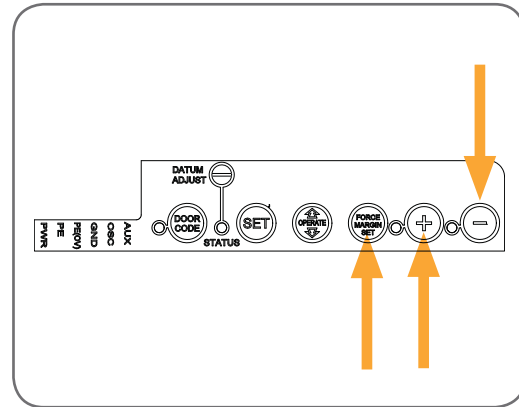

fig 35
- Hold down FORCE MARGIN SET button (**Fig. 35**)
- While holding the FORCE MARGIN SET button, press the PLUS (+) button. Each press increases the force margin (**Fig. 35**).
- While holding the FORCE MARGIN SET button, press the MINUS (-) button. Each press decreases the force margin (**Fig. 35**).